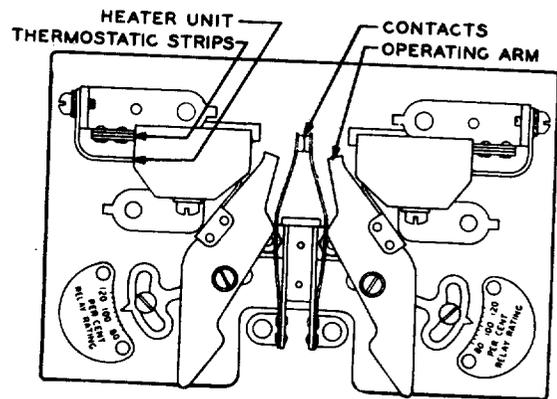

Fig. 7 - CR-2824-TC121-C Thermal Overload Relay
3.09 The CR-2824-TC121-C thermal overload relay shown in Fig. 7, can be replaced as a unit or in parts, including the heater units if the thermostatic strips are satisfactory. If the thermostatic strips are damaged, the relay should be replaced as a unit or returned to the manufacturer for repair and adjustment.